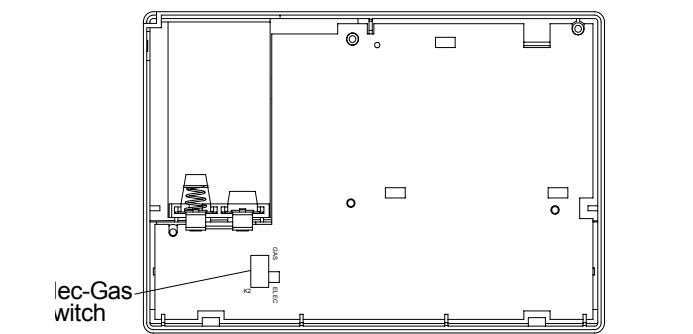

Figure 1. Electric/Gas Switch (Fan Option)
This thermostat is configured from the factory to operate a heat/ cool, fossil fuel (gas, oil, etc.), forced air system. It is configured correctly for any system that DOES NOT require the thermostat to energize the fan on a call for heat. If you system is an electric heat or heat-pump system that requires the thermostat to turn on the fan on a call for heat, locate the ELEC/GAS switch on the back of the thermostat (see fig. 1) and switch it to the ELEC position. This will allow the thermostat to energize the fan immediately on a call for heat. If you are unsure if the heating/ cooling system requires the thermostat to control the fan, contact a qualified heating and air conditioning service person. When the thermostat is configured for Heat Pump, the thermostat will always power the circulator fan on a call for heat in the HEAT mode. The ELEC/GAS switch must be set to match the type of Auxiliary heat your system uses for proper operation in the EMERGENCY mode. All wiring diagrams are for typical systems only. Refer to equipment manufacturers' instructions for specific system wiring information.
5. Fasten base loosely to wall, as shown in fig. 1, using two mounting screws. Place a level against bottom of base, adjust until level, and then tighten screws. (Leveling is for appearance only and will not affect thermostat operation.) If you are using existing mounting holes, or if holes drilled are too large and do not allow you to tighten base snugly, use plastic screw anchors to secure subbase.